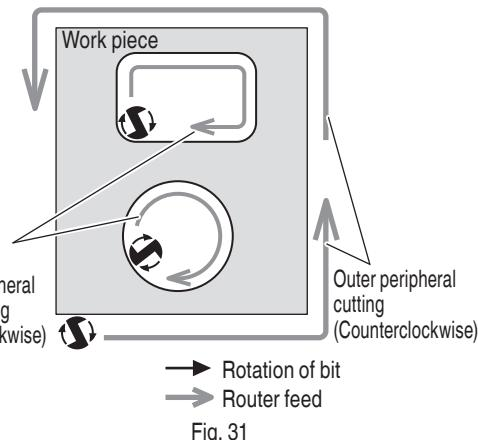

Fig. 31
- (2) The bit rotates clockwise (arrow direction indicated on the base). To obtain maximum cutting effectiveness, feed the router in conformance with the feed directions shown in Fig. 31.